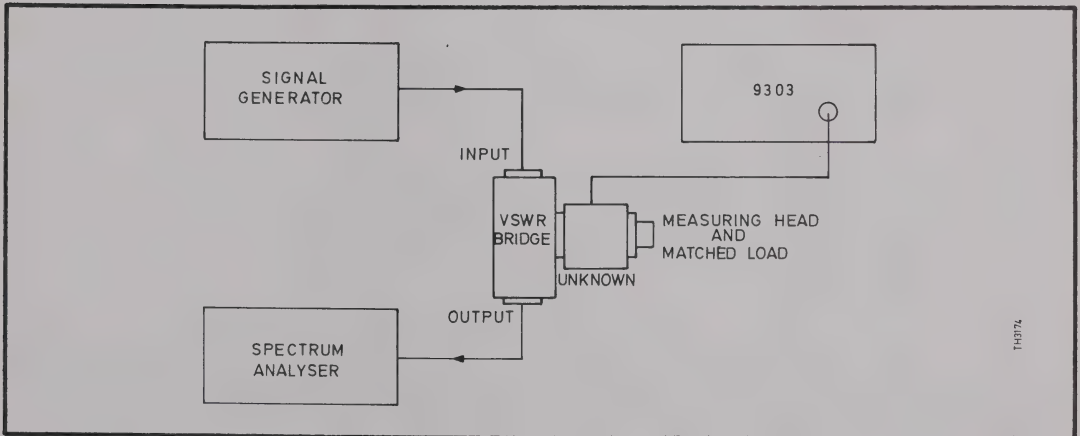

Fig. 6.3 Connections for VSWR Check
- 6.5.19.2 Connect the signal generator to the INPUT port and the spectrum analyser to the OUTPUT Port of the female VSWR bridge as shown in Fig. 6.3. Do not connect the measuring head to the UNKNOWN port. Set the signal generator output to 100 MHz at a level of 0 dBm. Set the spectrum analyser to measure relative power (logarithmic mode). Connect the 9303 measuring head to the INPUT socket calibrated for its use. Terminate the head with the matched 50 Ω load. Select FRONT or REAR as appropriate.